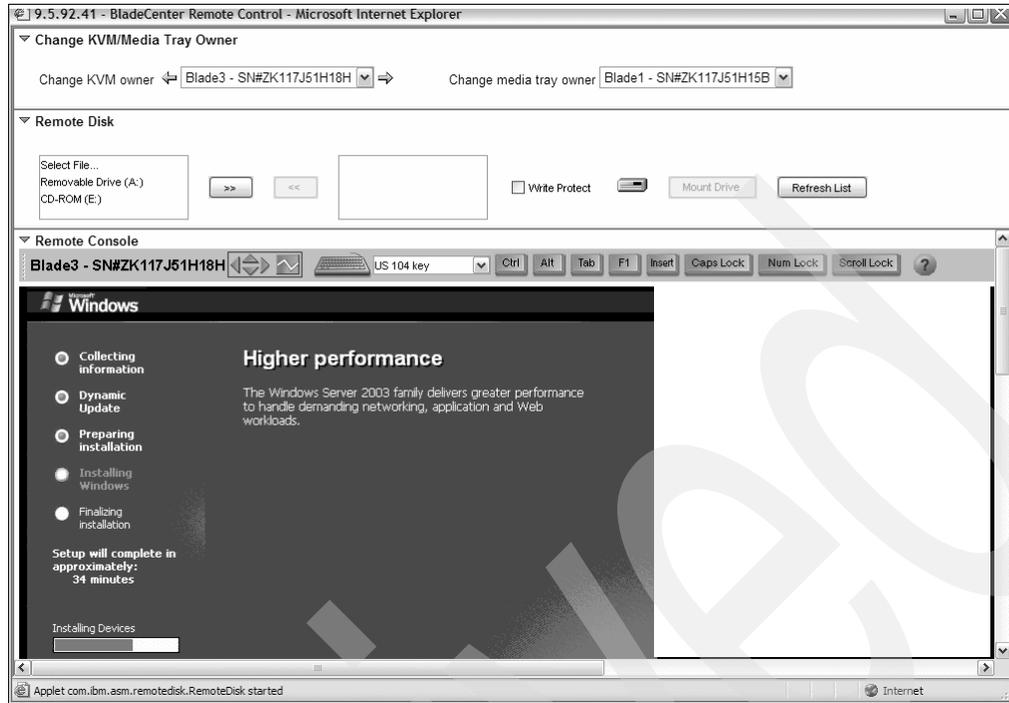

Figure 4-35 Install from the remote control panel verify keyboard icon is highlighted
- ▶ If you are doing an install from the remote control panel of the System Processor's management interface, you might experience a loss of control over the keyboard during the Windows portion of the install. From the management module, check to see that the keyboard icon is highlighted (Figure 4-35 on page 80). If it is not, you might not be able to use the keyboard.